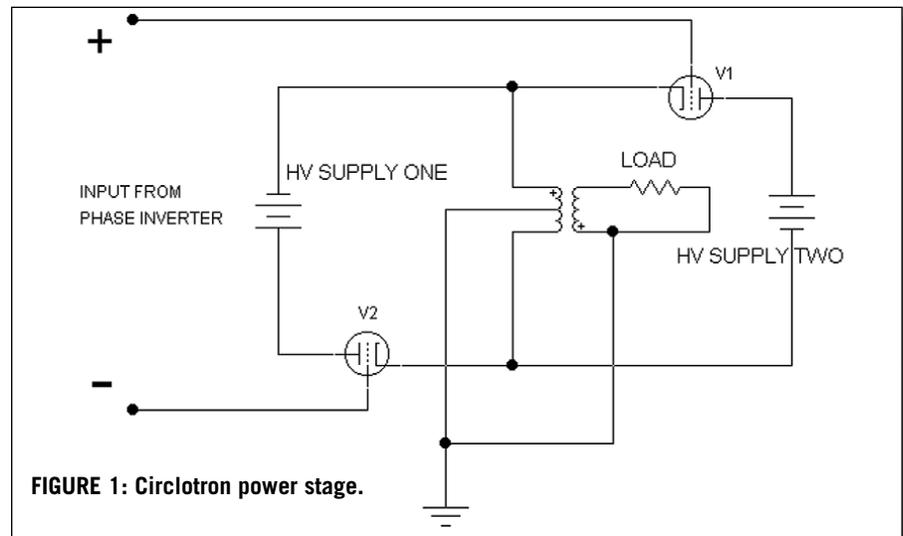

FIGURE 1: Circlotron power stage.
5. *Reference Data for Radio Engineers*, Sixth Edition, Howard Sams, Fig. 1, p. 6-1.
The Circlotron has some important advantages. The power tubes are connected in such a way to drive the load in parallel rather than in series, as they would in an ordinary push-pull circuit (*Fig. 1*).